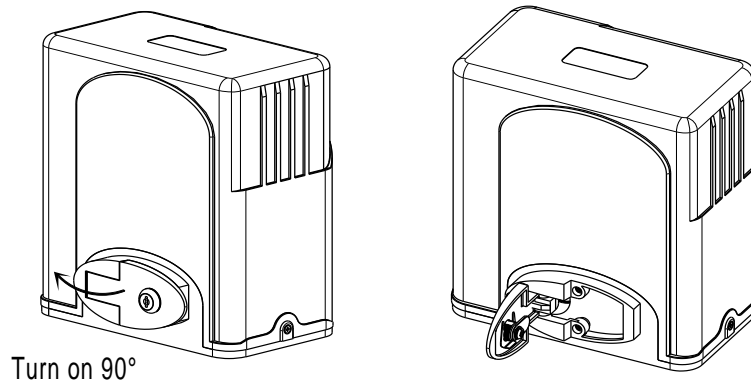

Figure 5
- Please unlock the main engine before installation, the unlock method is: insert the key, open the manual release bar till it rotates by 90° as shown in Figure 5. Then turn the output gear and the gear can be rotated easily;